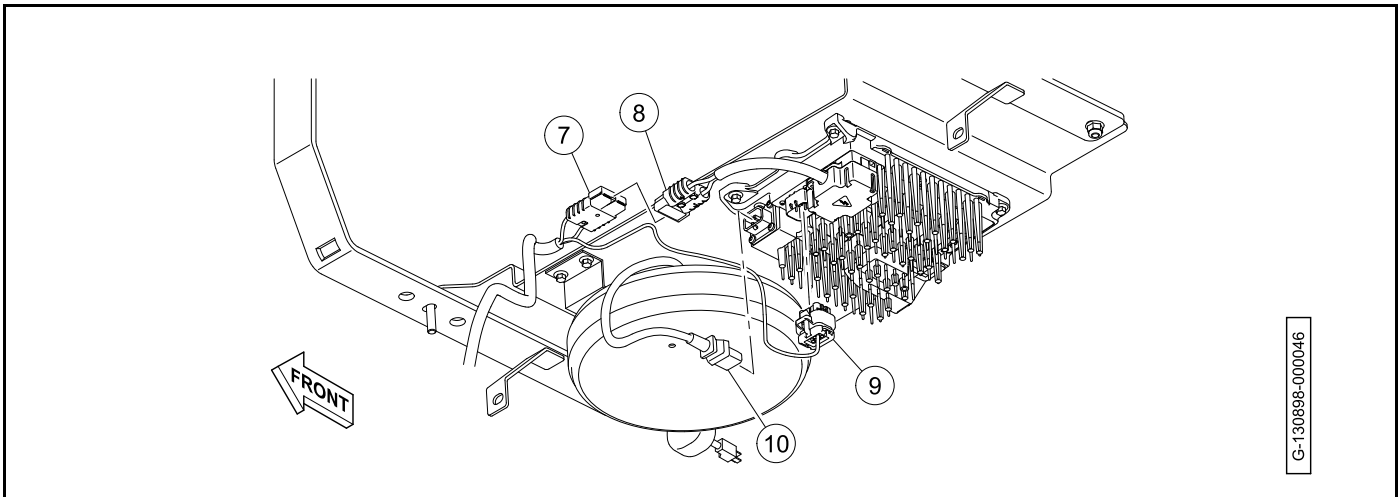

Figure 15-46 Harness Connections
2. Install the insulator (4), nuts (5), and screws (6). Tighten the nuts to 17 in·lb (2 N·m).
3. Connect the charger harness (7) from the charger power harness (8) (**Figure 15-46**).